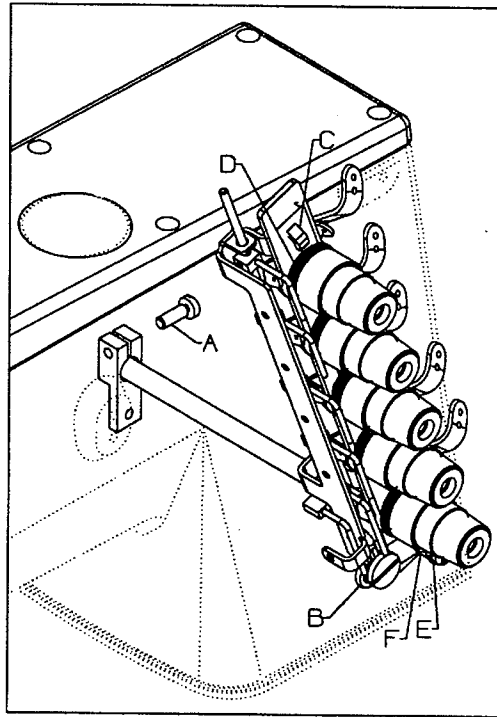

Fig 1
Turn eccentric (F), located behind screw (E) to set tension release lever (B) as required.(Fig 1)